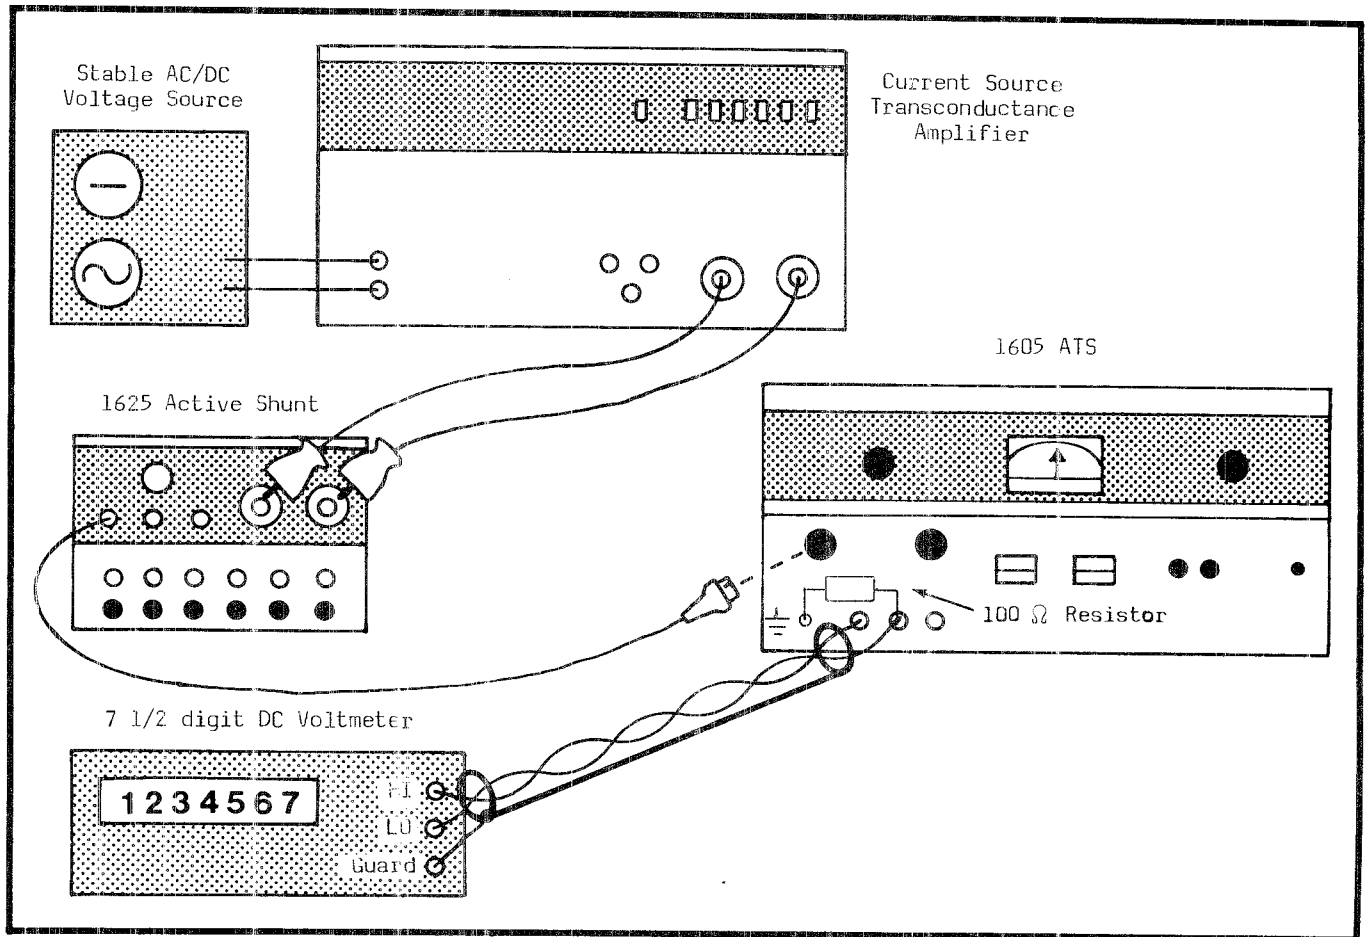

Figure 3-10. Calibrating a Current Source
b. Connect the test set-up shown in Figure 3-10.
8. Reconnect the auxiliary dc digital voltmeter to the 1605 as indicated in Figure 3-10.
1. Verify the test set-up of Figure 3-10 and connect an ac voltage calibrator to the input terminals of the transconductance amplifier under test (UUT). Be certain all equipment is fully warmed up and stabilized when performing these tests.